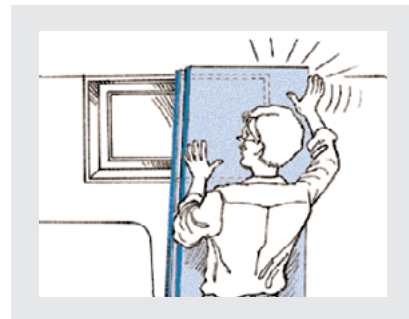

Figure 6
2. Place Styrofoam™ Brand Wallmate™ Insulation against window or door frame and tap (as with electrical outlet), making an imprint of the area to be cut on the back side of the board (Figure 6).